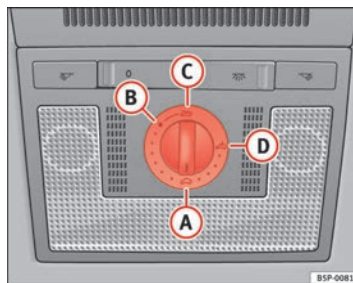

Fig. 69 Roof lining
- Turn the rotary button to position **A** ⇒ fig. 69 ⇒ .